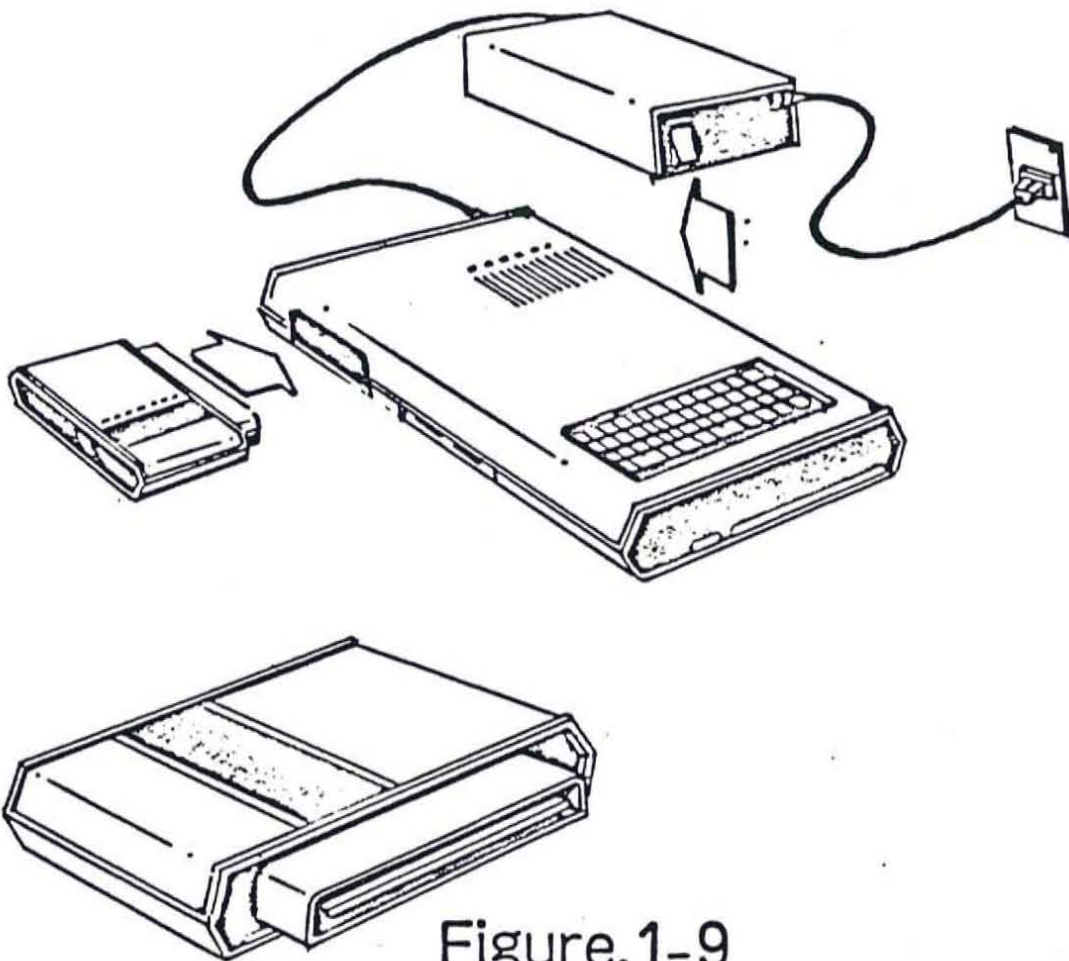

Figure.1-9
2. Plug the software cartridge into your MPF-II properly. (Fig. 1-9)